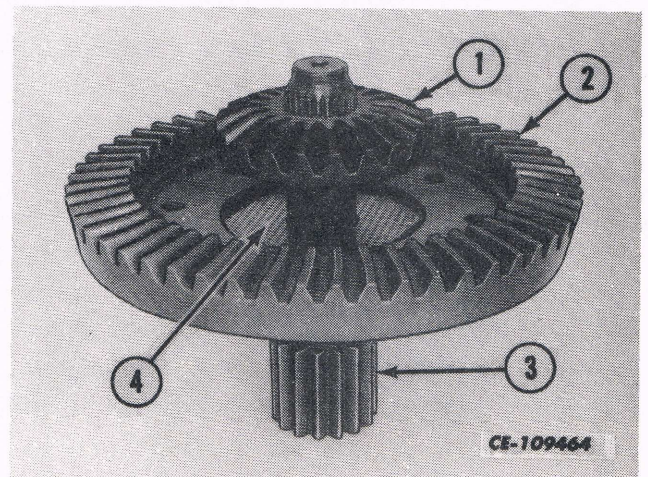

Fig. 8
3. Remove the differential bevel gear (1) from the ring gear (2). See Fig. 8.